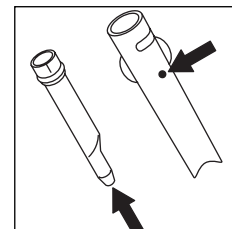

fig. 22
5. Make sure the two holes indicated by the arrows in fig. 22 are not blocked. If necessary, clean with a pin.